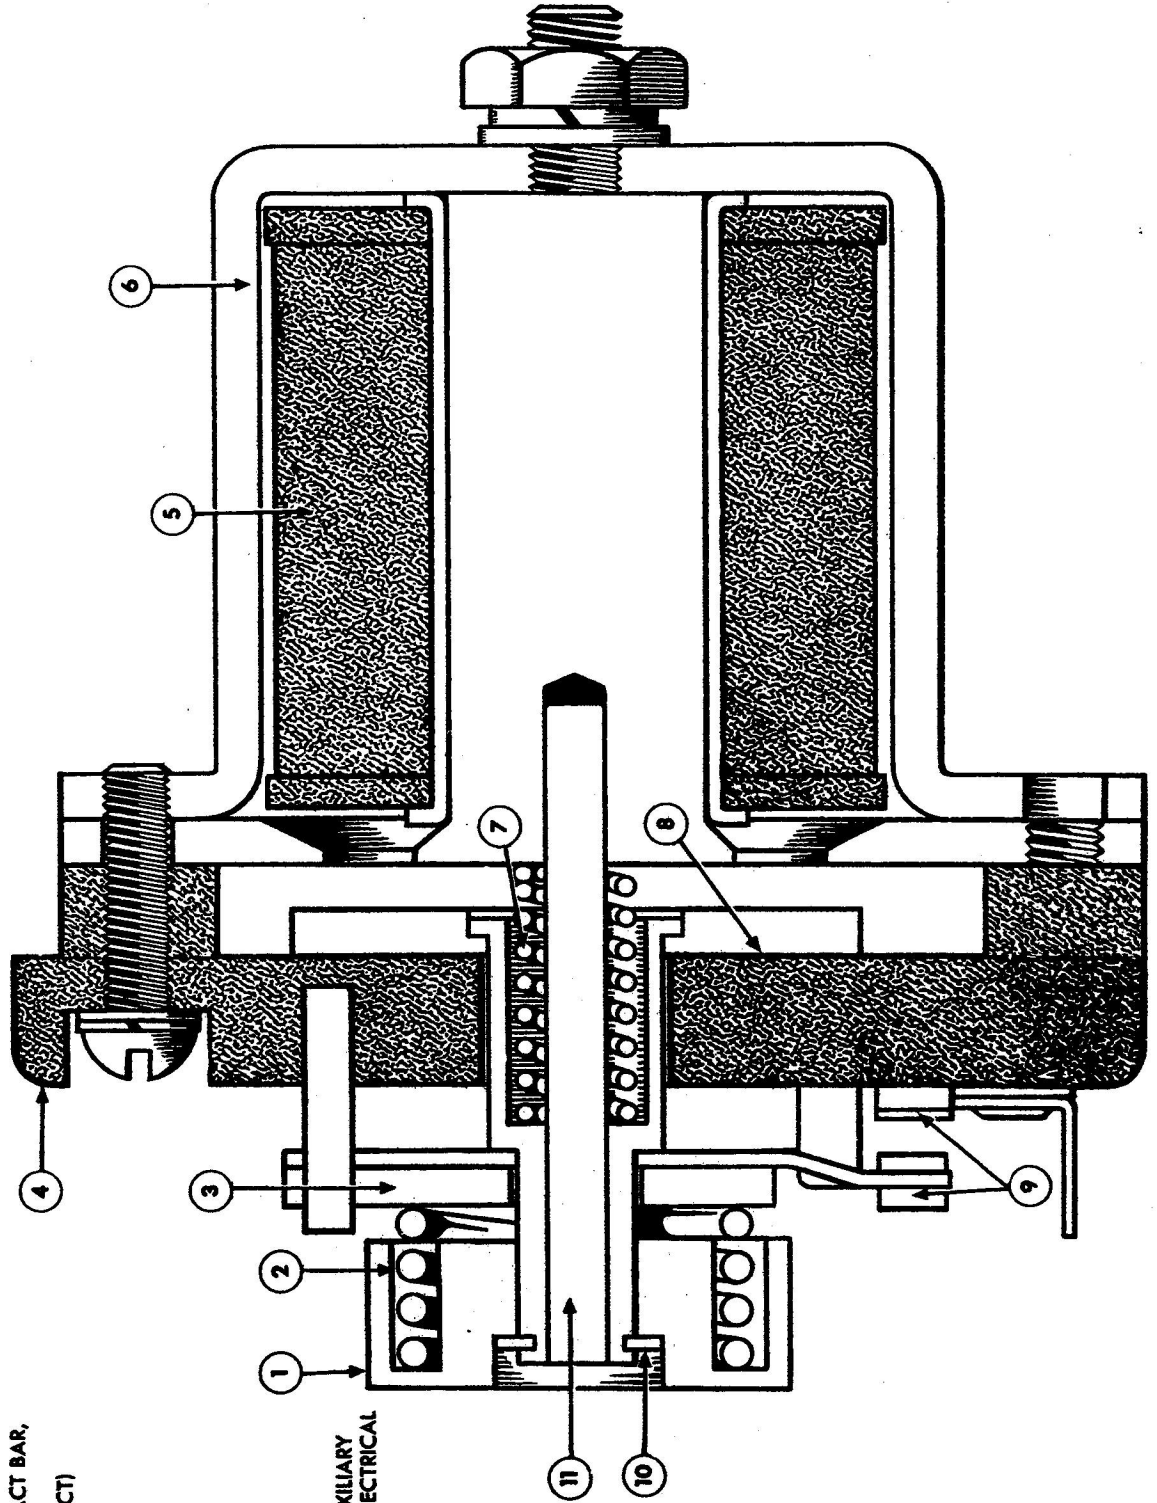

Figure 9—Cross Section of Contactor Assembly
(6) The energized main or pick-up winding (CM, figure 6) of the contactor coil closes the contactor main contacts (C1, figure 6). (See 3, figure 9.) At the same time, an electrical interlock (C2, figure 6) and (9, figure 9) opens and places the holding winding (CH, figure 6) of the contactor coil in series with the main or pick-up winding (CM) of the contactor coil. The contact force thus obtained by the two coils in series is 4 pounds per contact, which produces a voltage drop from the generator terminal to the battery terminal of 90 millivolts at 300 amperes.